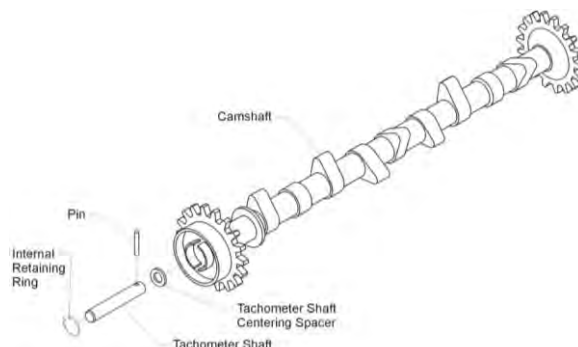

Figure 70
- (1) Install the tachometer shaft (Figure 70) with a new tachometer shaft centering spacer on the camshaft assembly.
- (2) Install a new internal retaining ring on the tachometer shaft.
- (3) Install a new pin in the tachometer shaft.